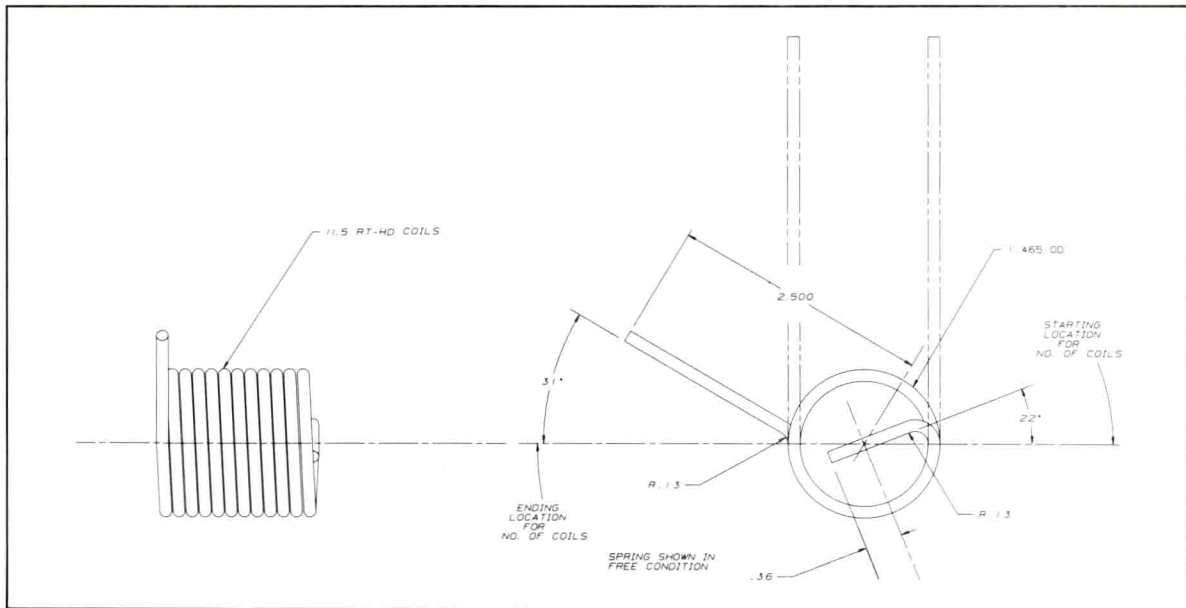

Fig. 1-1. This working drawing provides the information needed to manufacture a spring. The part will be installed in a satellite. (Fairchild Space Company)
*Drafting* is a language, a method to communicate ideas with drawings. Most products you see around you began as a sketch on paper or a computer screen. Completed *working drawings* convey the information other people need to build, machine, assemble, install, or service a product, Fig. 1-1. Drafting applies to the hobbyist and homeowner as much as it does to industry. If you want to design a new basketball backboard, a good way to show your ideas is with a drawing.